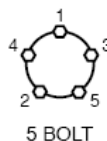

Figure 1: Tightening sequence for bolt or nuts
2. Tighten bolts or nuts in the sequence shown above for Wheel Torque Requirements. (See Figure 1.)
- DO only use an impact wrench with torque stick as a tool initially to lightly secure the wheel, applying a criss-cross or star pattern. (See Figure 1)